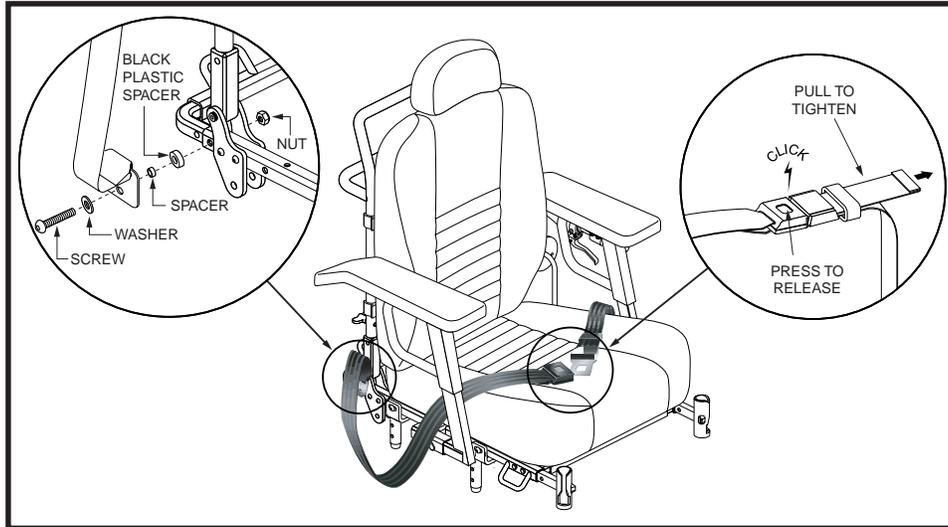

Figure 17. Positioning Belt Attachment
Your Euro Seat may be equipped with a positioning belt that can be adjusted for operator comfort. See figure 17. The positioning belt is designed to support the operator so that he/she does not slide down or forward in the seat. The positioning belt is not designed for use as a restraining device in a motor vehicle.
1. Once seated, insert the metal tab on one side of the belt into the plastic housing on the opposite side until you hear a click. See figure 17.